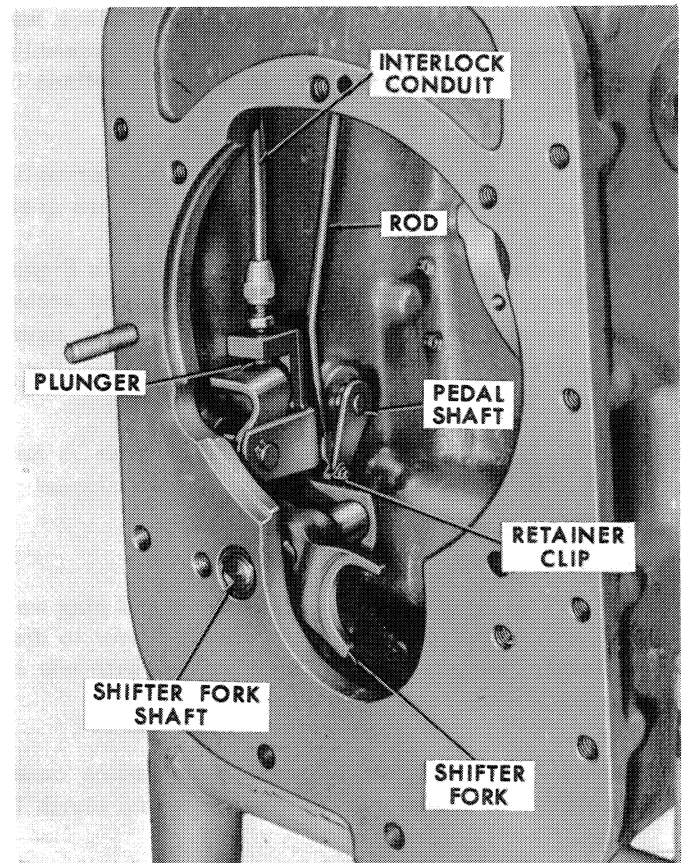

Figure 57
1. Install the feathering valve lever shaft in the case with the transmission spacer and P.T.O. feathering control rocker and P.T.O. interlock assemblies. Secure with two snap rings. Install two sealing plugs, assembled tight against the shaft. Refer to Figure 57.
5. Install the P.T.O. interlock cable and conduit in the case, inserting the top through the clamp in the feathering valve lever shaft linkage. The plunger on the bottom of the cable is installed in the shift shaft lever. Secure the conduit fitting to the lever. See Figure 57.